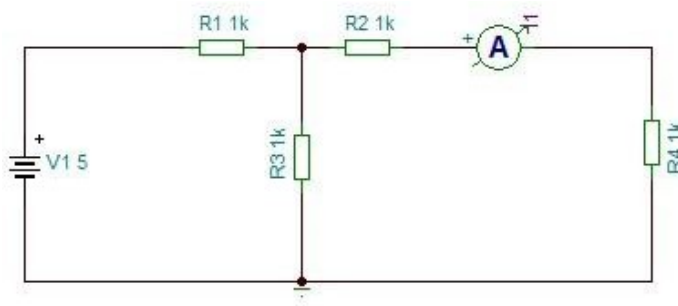

Fig 1: Circuit Diagram
1. Connect the circuit as shown in figure 1.